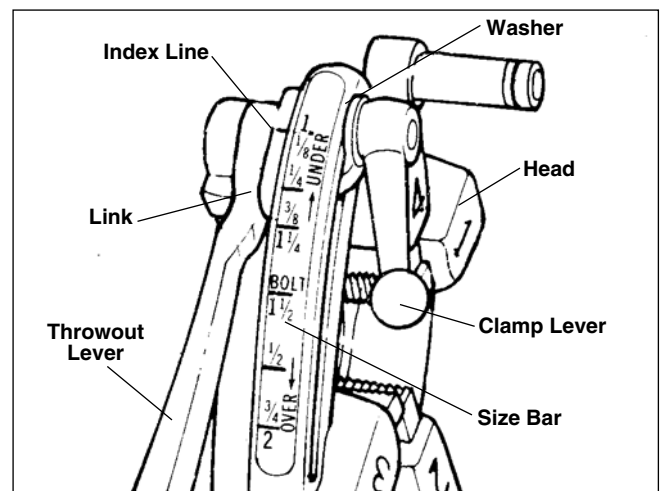

Figure 12 – Universal Quick-Opening Die Head
5. Quick-Opening 811A Die Head (*Figure 12*) – Rotate throwout lever to the CLOSED position.
10. Quick-Opening 811A Die Head (*Figure 12*) – When thread is completed, raise throwout lever to open position, retracting dies.
NOTE! The No. 811A Universal Die Head (Figure 12) for right hand threads requires four sets of dies for thread pipe ranging from $\frac{1}{8}$ " through 2". One set of dies is required for each of the following pipe